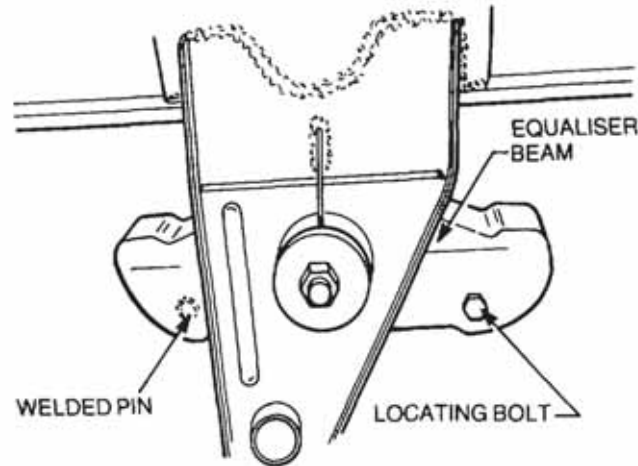

Figure 15 Spring Locating Bolt and Pin
50. **Removal of Bushes.** Remove the equaliser beam bushes as follows (Figure 15):
51. **Installation.** Install the equaliser beam bushes as follows (Figure 15):